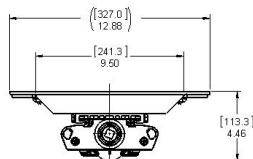

Figure 6. MP1054MTK Kit Magnapro Mount Kit Installation
3. Mark and drill holes to install brackets to wall or ceiling with two (2) 1/4" bolts (not supplied). For Magnapro, bracket holes may be spaced as required, it is recommended to keep them at least 12" (305mm) apart (see Figure 6).